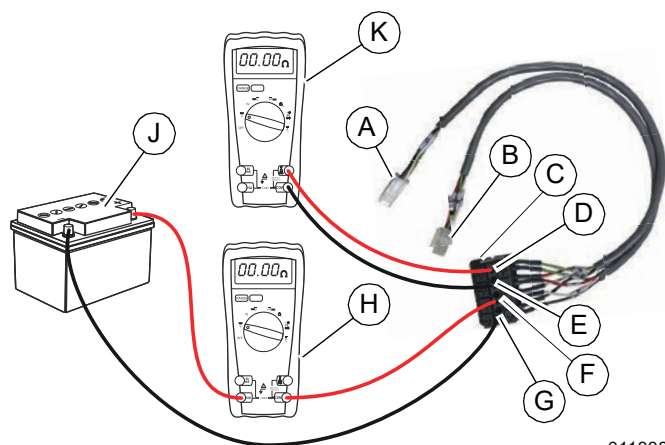

Figure 3. J3 Breakout Harness Testing Setup
5. See Figure 3. Apply DC power to Wire 4 (F) and Wire 0 (G) test points of the WAGO end (C) of the J3 breakout harness using a 12 VDC power supply (generator battery) (J) with the DMM (H) in series.
3. See Figure 3. Connect female end (B) of J3 breakout harness to generator harness.
4. Set first DMM (H) to measure current (10A). See DMM manufacturer's specific instructions to configure for amp draw testing.
5. Set second DMM (K) to measure AC volts. Insert DMM test leads into AC Excitation (Wire 2 and 6) test points.
6. See Figure 3. Apply DC power to Wire 4 and Wire 0 test points of the WAGO end of the J3 breakout harness using a 12 VDC power supply (generator battery) with the DMM in series.